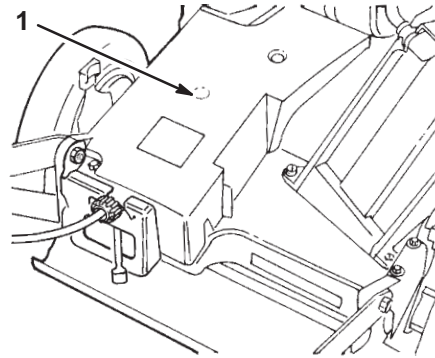

Figure 32
- Install grease gun onto fitting through belt cover opening (Fig. 32). Gently apply 1-2 pumps of grease.